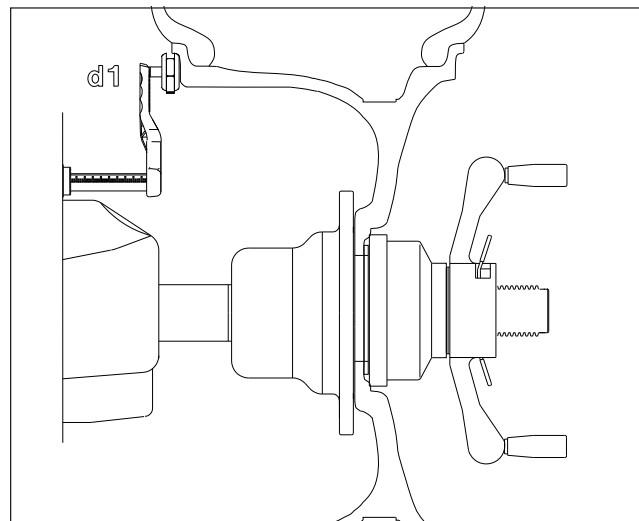

Figure 31
2. Extend the rim offset gauge arm and touch the position of the left weight position. See Figure 31. The display will read "d - 1". The high tone will sound when dimension is entered. Return the gauge arm to the rest position, a low pitch tone will indicate when it is OK to proceed. The width arm is not used in this procedure.